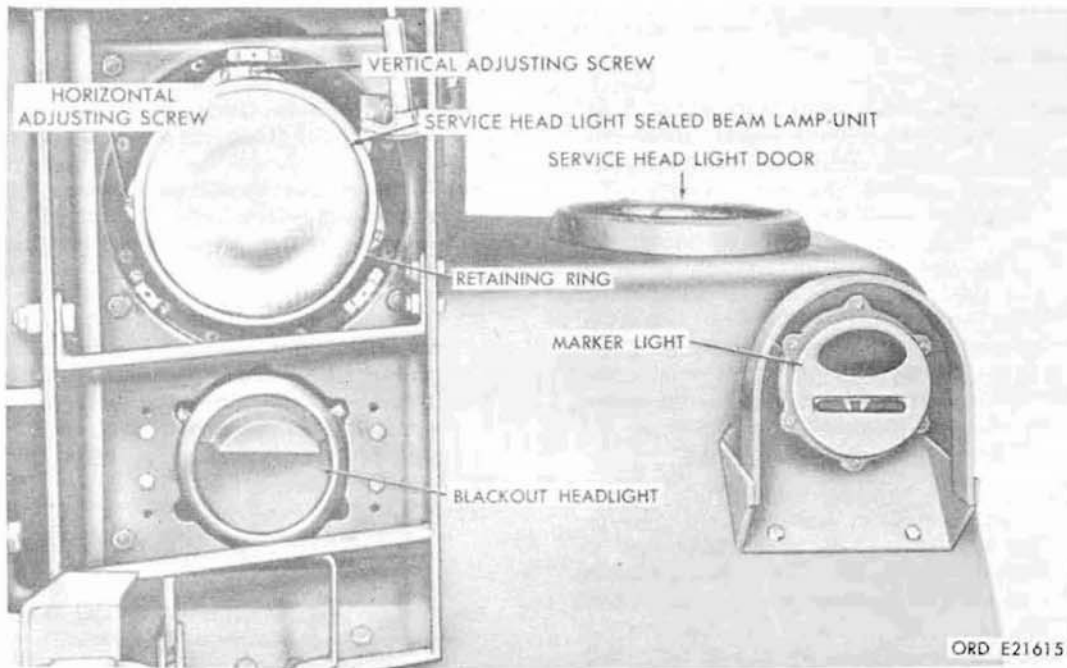

Figure 155. Service headlight, blackout headlight, and marker light - service headlight door removed
- (1) General. Power for the lighting system is obtained from the batteries (par. 110) or the charging system (par. 108), depending on the battery charge and the generator charging rate.
- (2) Service and blackout headlights (fig. 155).
- (3) Marker lights (fig. 155). Waterproof marker lights are mounted on the right and left front fenders and are controlled by the light switch (par. 129). Three lamps in the light housing are used for blackout marker, service parking, and signal lights.
115. Blackout Headlight (Fig. 155)
b. Headlight (Fig. 155).
116. Marker Lights (Fig. 155)